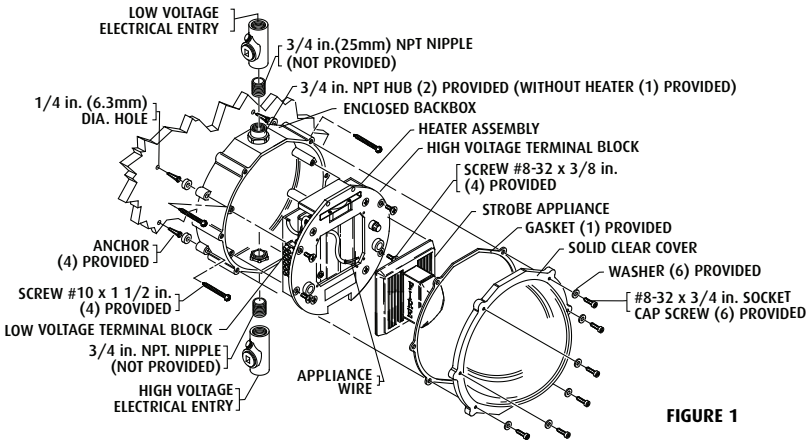

FIGURE 1
MOUNT BACKBOX TO WALL (Refer to Fig. 1)
2. Mount back box in desired location (wall mount only) using the four #10 x 1-1/2" screws and anchors (provided). Drill a 1/4" diameter pilot hole for plastic anchors at spacing in Fig. 1.
9. Attach heater assembly to back box using (4) #8-32 x 3/8" flat head screws into heater assembly mounting bosses on back box (see Fig. 1). Make sure all service wiring is gathered away from the heater and be careful not to pinch wire under heater assembly. Fan must be mounted toward top of enclosure.
12. Install cover and gasket with (6) #8-